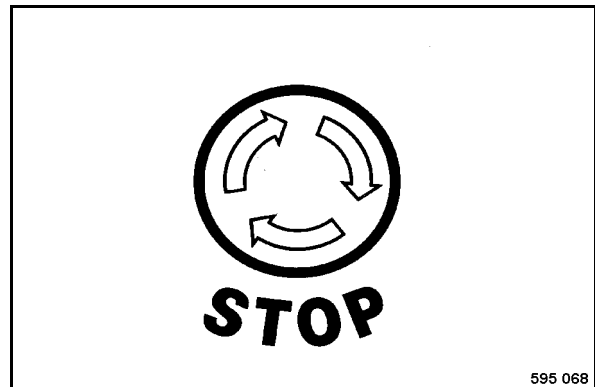

Fig. 68
- Press the button of the emergency stop switch (Fig. 68) completely down, it automatically locks in fully pressed position.